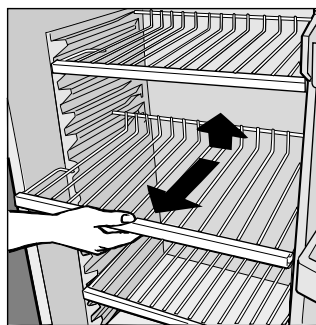

Fig. 1
- The refrigerator compartment is equipped with convenient, removable shelves (Fig. 1) which can be adjusted for height using the shelf guides. This allows you to place even large containers and foodstuffs in the refrigerator.